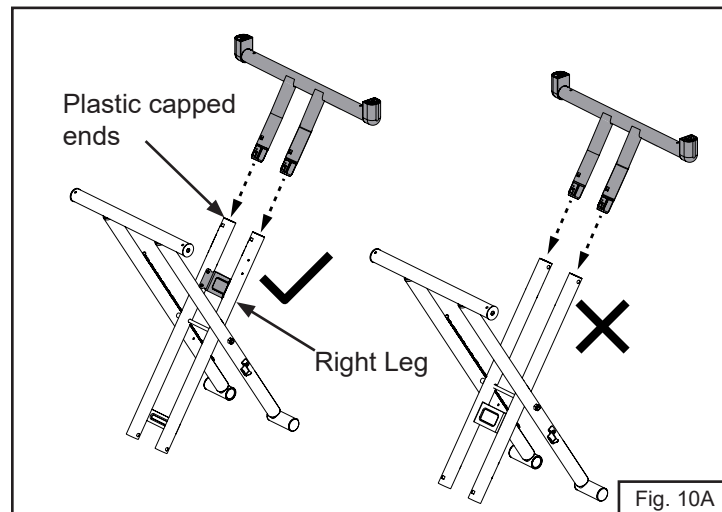

Fig. 10A
8. Insert the towing handle into the right leg (Fig. 10A).
- NOTE: Please refer to Fig. 10A and Fig. 10B for proper orientation of the towing handle.